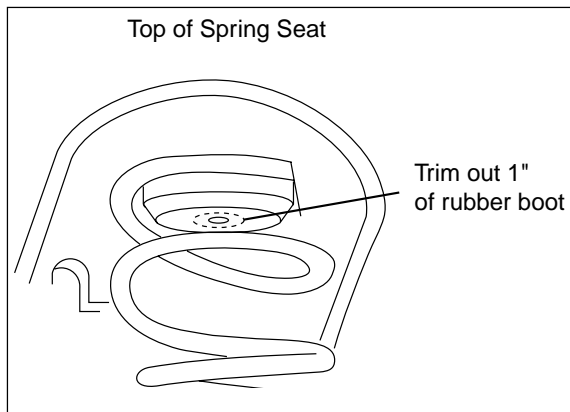

Figure 2
- b. **IMPORTANT:** For Suburbans, Tahoes, Yukons, Trailblazers, Envoys, Bravadas, Avalanches, and Escalades it will be necessary to trim the rubber isolator at the top for the valve stem clearance (Figure 2). Insert flattened air cylinder into coil spring through lowest opening with the stem at the top (Figure 1b).